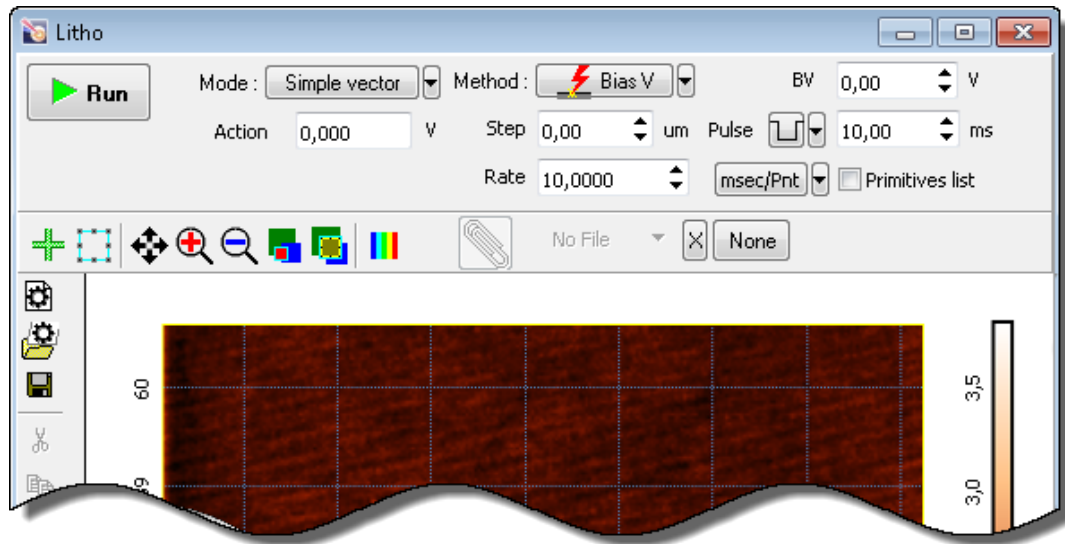

Fig. 12-37. Litho window
2. Open the **Litho** window (Fig. 12-37) by clicking the  button.